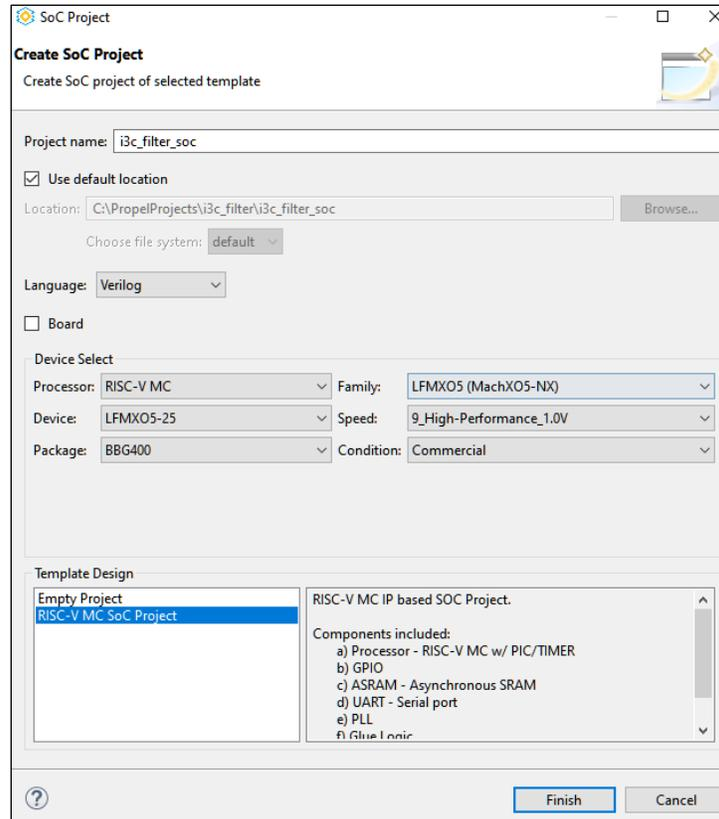

Figure 6.4. Create SoC Project
- In **Device Select** section, indicate the correct details of the device or board that you will use. In Figure 6.4, device is set to LFMX05-25-9BBG400C since MachXO5-NX Development Board is used in the hardware testing.